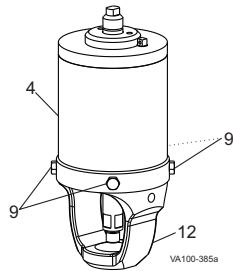

Figure 44:
1. Remove the cap screws (Figure 44, item 9) and pull the yoke (item 12) from the actuator cylinder (item 4).